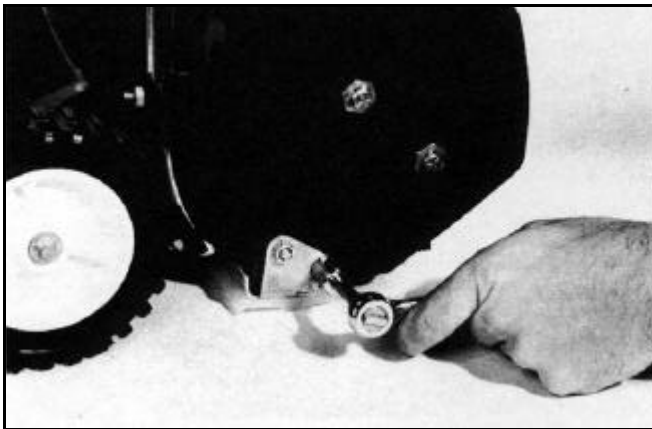

Figure 163
2. Remove the four carriage bolts and locknuts securing the scraper support bracket to the snowthrower housing (Figure 163).